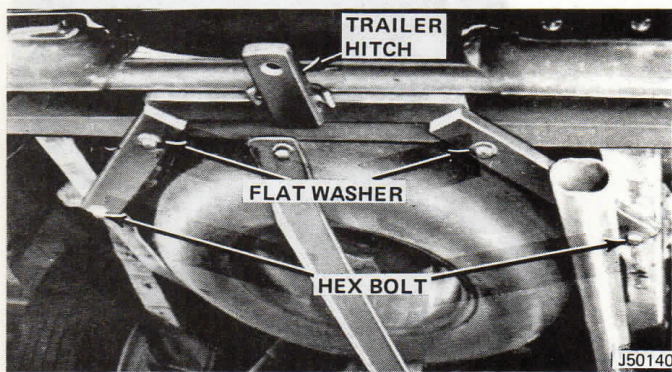

Fig. 8-2 Class II Trailer Hitch Installed—1976-1978 Models
(1) Remove undercoating from surfaces where hitch attaches to crossmember and frame.
(2) Place trailer hitch in position on vehicle (fig. 8-2 and 8-3). Ensure hitch is centered and that bolt holes align.
(3) Attach hitch with 1/2-13 x 1-3/4-inch hex-head bolts, flat washers, lockwashers and hex nuts. Tightening torque is 75 foot-pounds (102 N•m).